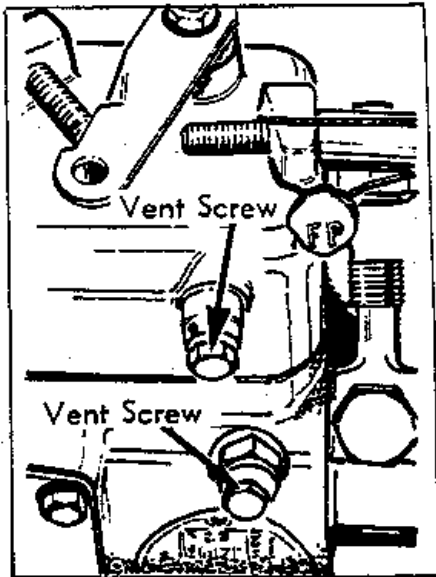

Fig. C-5
3. Slacken the air vent screw near the side of the governor housing on the fuel injection pump (see Fig. C-5).